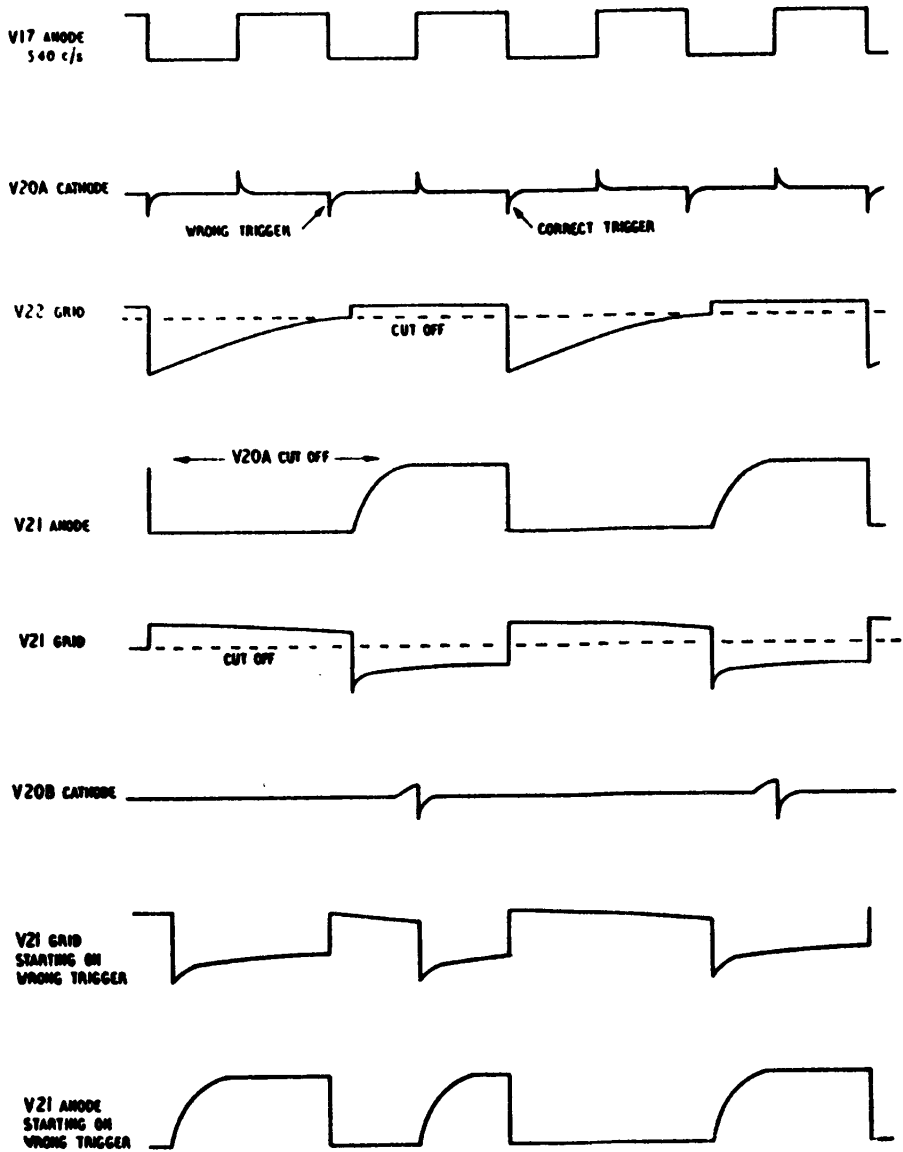

Fig. 9. Sine wave trigger waveforms
31. As mentioned above V20A might, on first switching on, pass the wrong trigger pulse. It is apparent that the sine wave would then be in the wrong phase and the secondary sub-trigger pulse train from the MTU would consist of the pulses in the 540 c/s MTU trigger pulse train which should be blanked. To prevent this happening, a pulse at 270 c/s from the anode of V14 is sharply differentiated in C1 and R174 producing a sharp negative-going pip which is applied to the cathode of V20B. With correct triggering the grid of V21 is below cut off (fig. 9) and the pip is not passed by V20B.